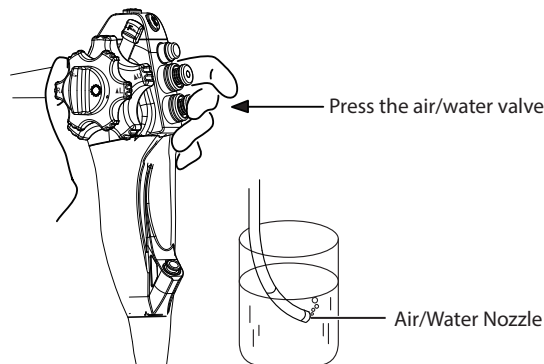

Figure 3-6 Air Feeding Inspection
3. Cover the air/water valve with a finger to feed air. Ensure that bubbles continuously come out from the air/water nozzle, as shown in Figure 3-6. Refer to the relevant endoscope user manual for details.